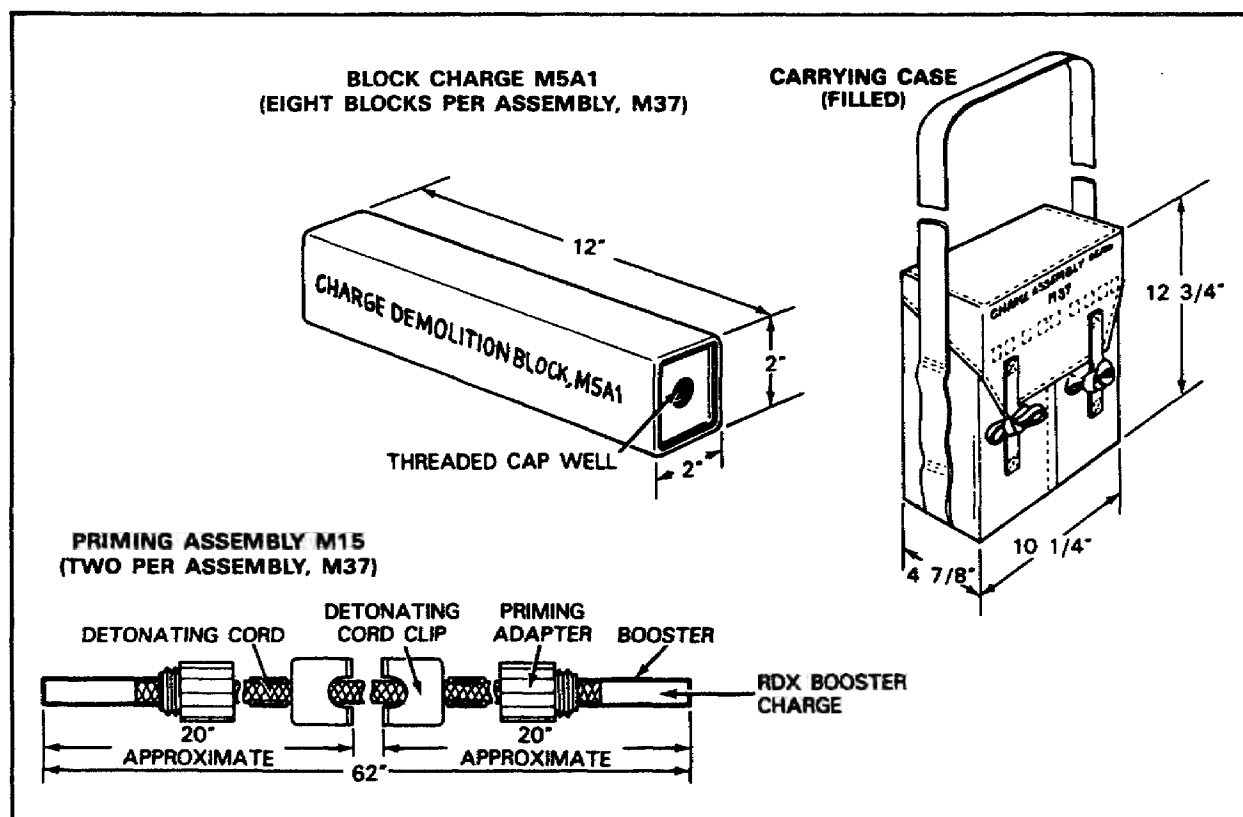

Figure 82. Charge Demolition Assembly, M37.
**Charge Demolition Assembly, M37.** See Figure 82. The charge, demolition block, M5A1 is made of 2 1/2 pounds of composition C-4 encased in a plastic container. It is olive drab with yellow markings and has a threaded cap well in each end. Composition C-4 is a plastic explosive. It may be removed from the container and molded like putty to any shape desired. This makes it good for cutting steel and for most combat demolition operations. There are 8 M5A1 blocks per assembly and two assemblies packed to a wooden box. The M5A1 block is also issued packed 24 blocks to a wooden box.